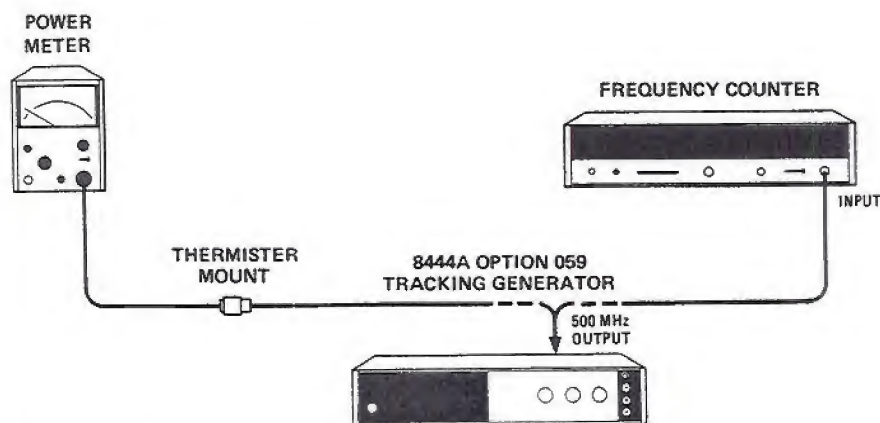

Figure E-2. 500 MHz Local Oscillator Adjustment Setup
1. Connect equipment as shown in Figure E-2 with power meter connected to rear-panel 500 MHz OUTPUT.